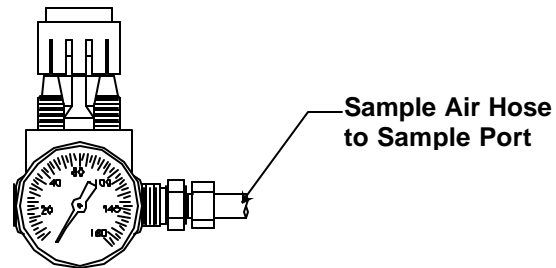

Figure 1A: Regulator
Sample Air Hose	A six foot long hose to conduct a sample of the air from the source to the instrument. See Figure 1A .
Regulator	To connect to the compressed air line. Regulator output to the ISA-200 RAL(O) should be set to 55 PSI. See Figure 1A .